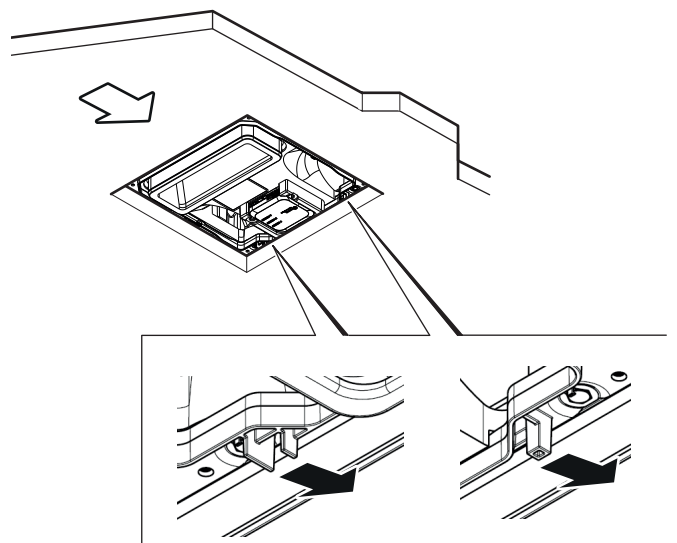

Fig. 11
- ▶ Use the two positioning lugs on the external unit as a front stop for alignment (Fig. 11). The external unit must then be moved back so that the screw holes for the mounting frame are accessible.